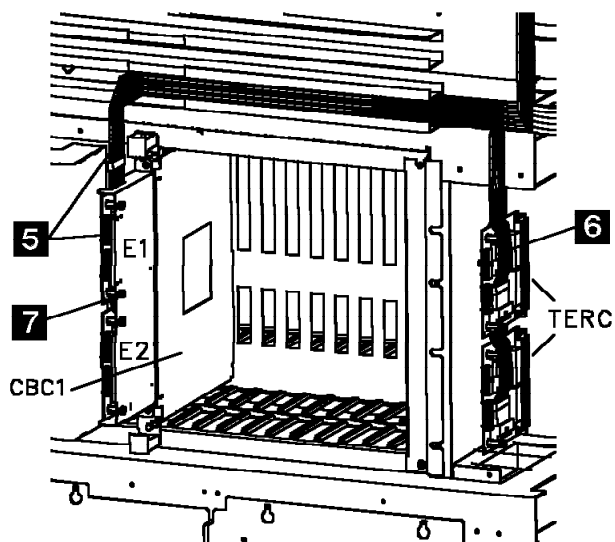

Figure 9. IOC/DMA Cable Termination with single CBC.
- ___ 10. Unplug the cables **6** (see Figure 9 on page 14) from the TERC card.